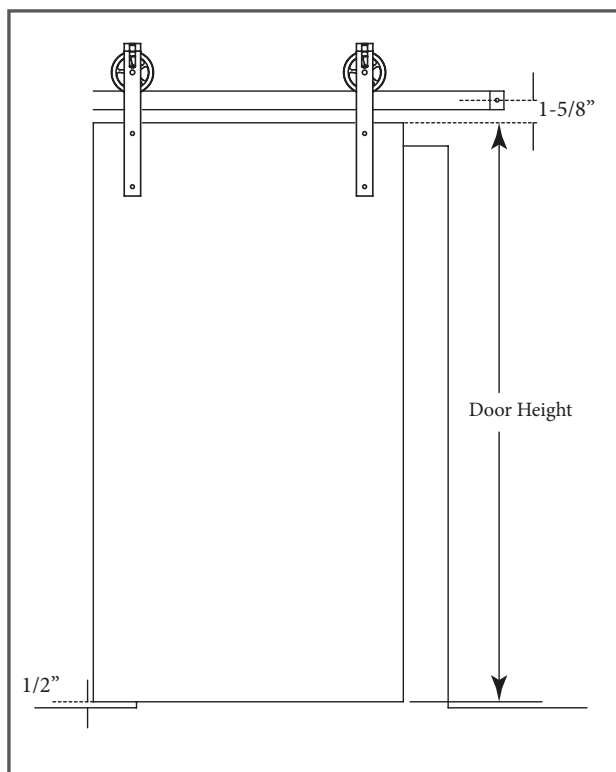

Figure 1
1. To determine where the track should be installed, first measure the height of the door, then add 2-1/4". 1/2" of this total will be for the clearance between the bottom edge of the door and the floor. 1-5/8" will be from the top edge of the door to the center of the track. (Figure 1).